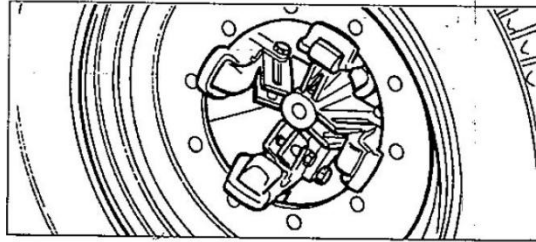

Figure 20
- 5) The wheel is locked when turntable's clamps jams the rim as can be seen in **Figure 20**.